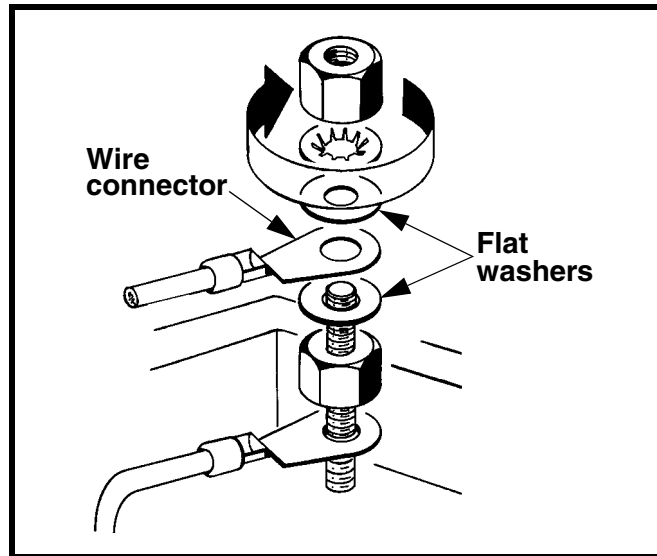

Figure 6. Installing Wire Connector
4. Install wire connector between the two flat washers. See Figure 6.